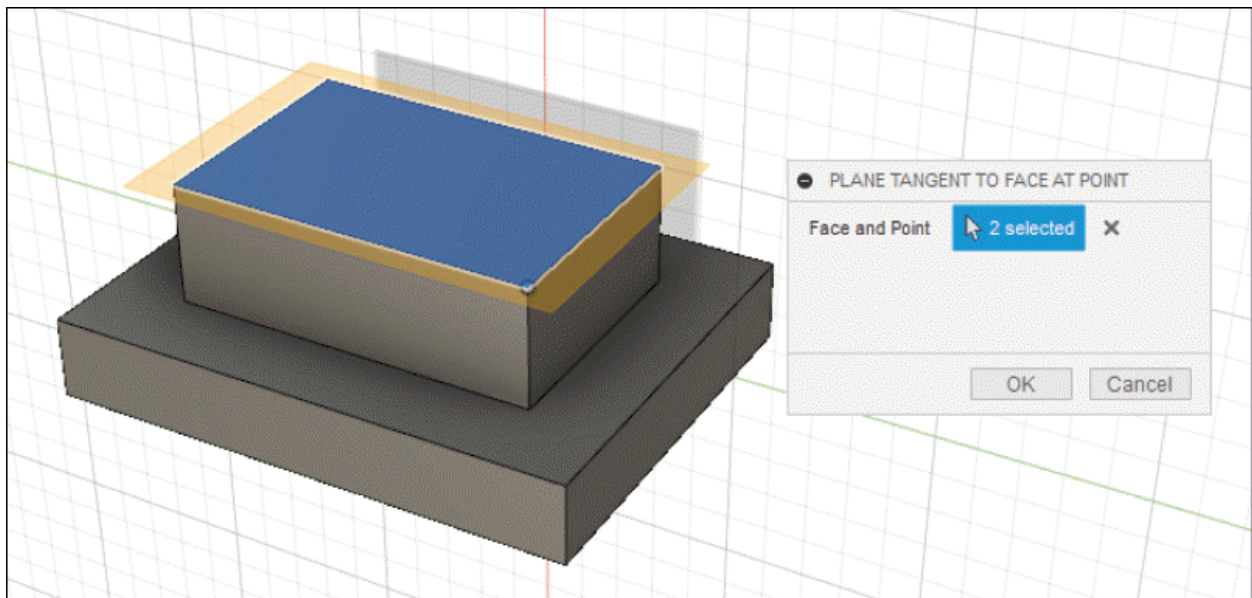

Figure-96. Preview of plane tangent to face at point
- On selecting the second face or point, preview of plane will be displayed; refer to Figure-96. Click on the **OK** button from the dialog box to create the plane.